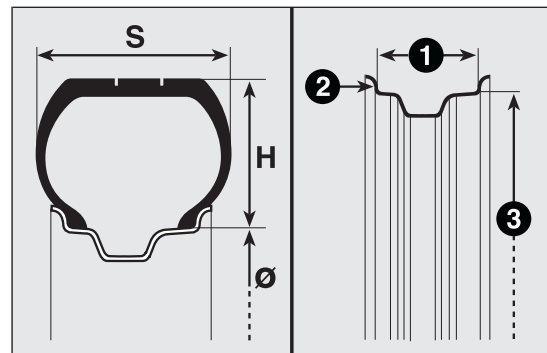

fig. 180
**Example: 175/70 R 14 91 T** (see fig. 180)
**Example: 5 1/2J x 14 H2 ET 44** (see fig. 180)
**5 1/2** rim diameter in inches (1).
**J** rim drop centre outline (side projection where the tyre bead rests) (2).